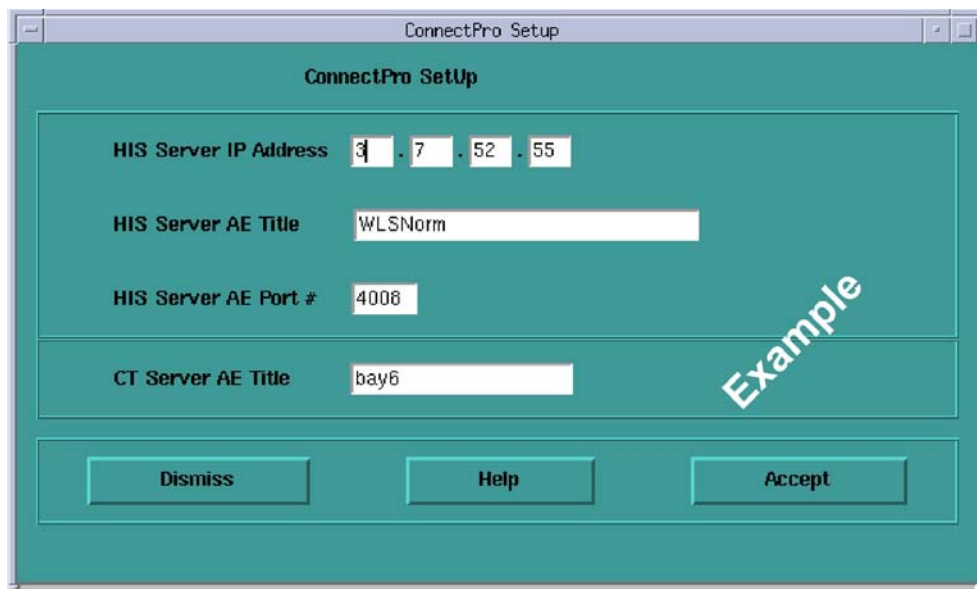

Figure 8-7 ConnectPro Setup Screen
- the console displays the ConnectPro Setup window as shown in Figure 8-7.
Then the ConnectPro Setup window as shown in Figure 8-7. Follow the Step 9.\) to Step 19.\) in Section 9.2 on page 434.